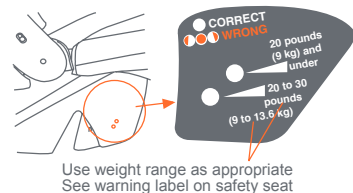

Fig. 46-2
For your child's safety, the Safety Seat must be properly reclined when installed in the vehicle. The Safety Seat includes a Seat Angle Indicator on the lower portion of the shell on the child's left side, to assist in achieving the proper angle of recline for the Safety Seat (Fig. 46-2).
2. **Safety Seat without Base:** Check that the Safety Seat is level side to side on the vehicle seat. Check the level indicator as shown in (Fig. 46-2).